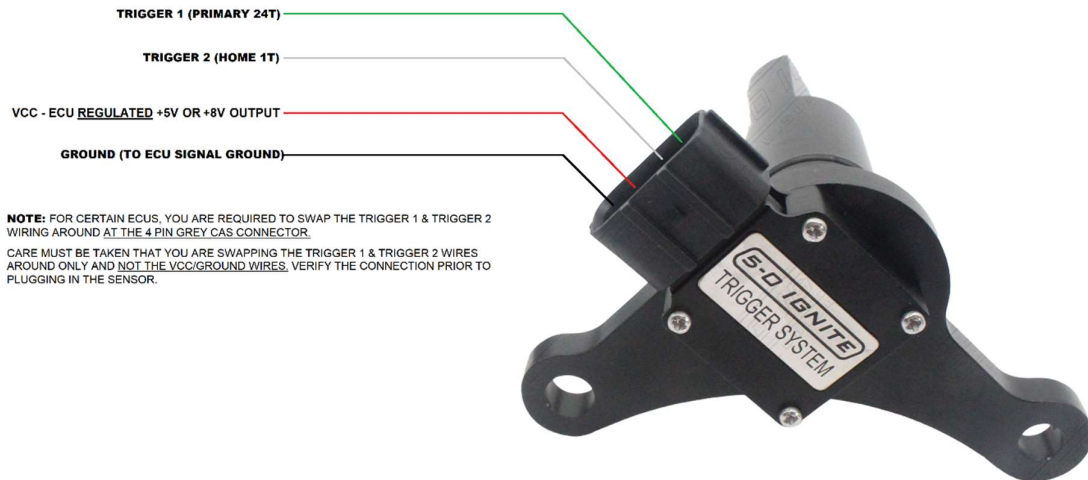

Figure 13 - 5-0 Ignite SR Cam Trigger V2 Sensor Pinout
12. Hardware installation is now complete. Assemble everything back together and perform the wiring. The wiring pinout is on figure 13 of this installation guide.